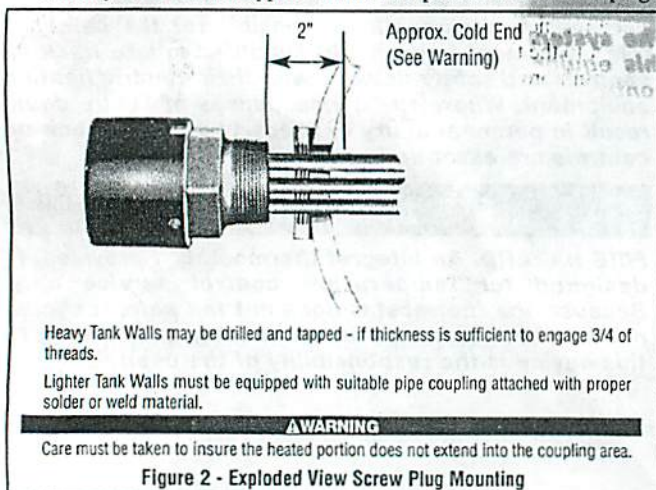

Figure 2 - Exploded View Screw Plug Mounting
7. Install the heater using a high quality pipe sealing compound on the threads. Screw the heater into the opening (Figure 2). Tighten sufficiently with wrench applied on the hex portion of the screwplug.